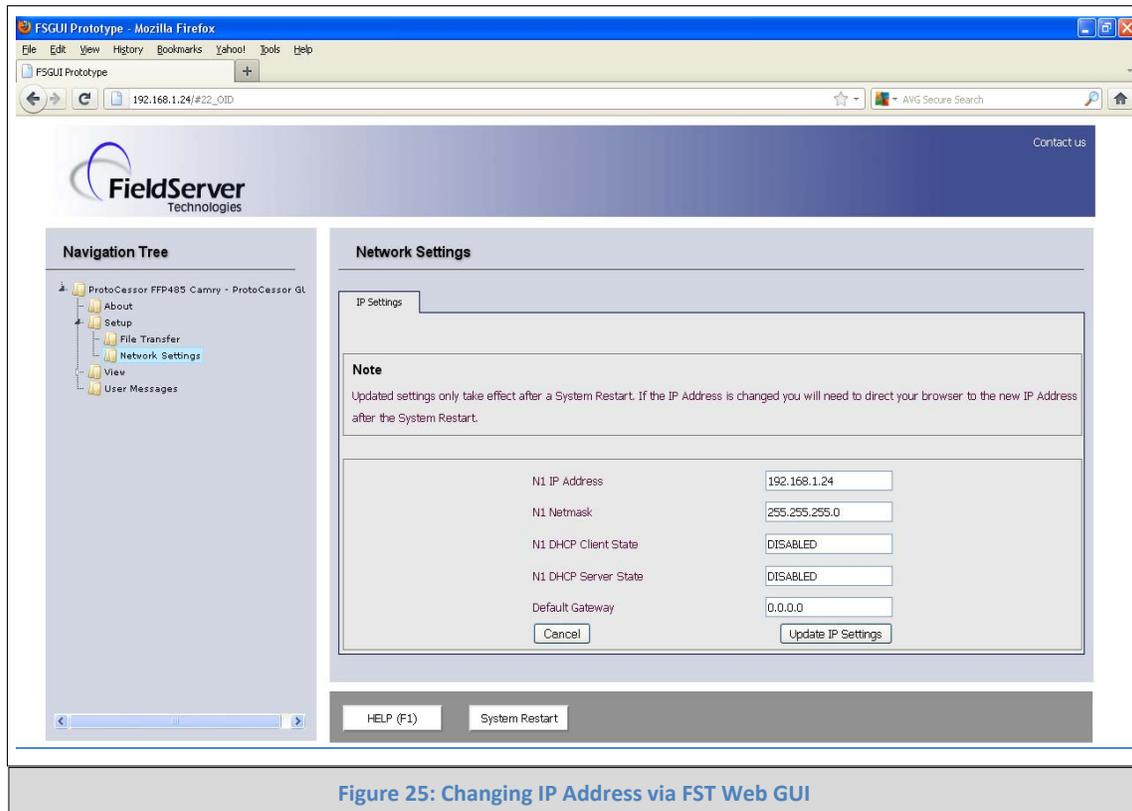

Figure 25: Changing IP Address via FST Web GUI
- From the GUI main landing, click on Diagnostics and Debugging to get to the Utilities section of the GUI (to change IP Address and other capabilities). (See Figure 25)